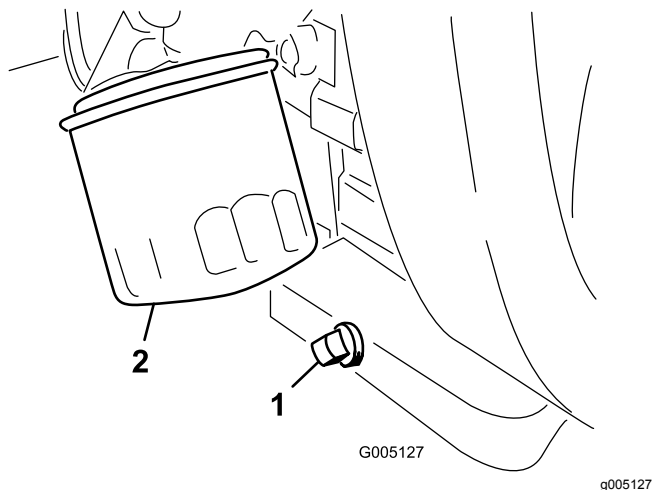

Figure 43
1. Remove the drain plug (Figure 43) and let the oil flow into a drain pan.
2. Clean the threads of the drain plug, apply PTFE sealant, and install the drain plug (Figure 43).
3. Remove the oil filter (Figure 43).